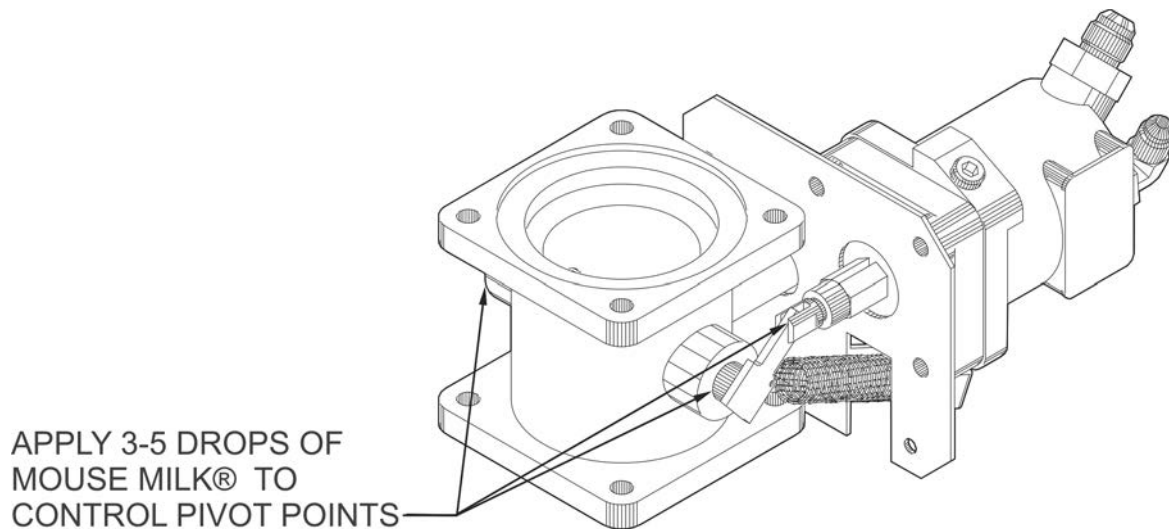

Figure 6-97.1. Typical Wastegate Lubrication Points
- b. For variable wastegate valves resembling the Figure 6-97.1, lubricate the butterfly shaft with Mouse Milk® (see Table 3-5) penetrating lubricant at initial installation and at each 100-hour maintenance interval.